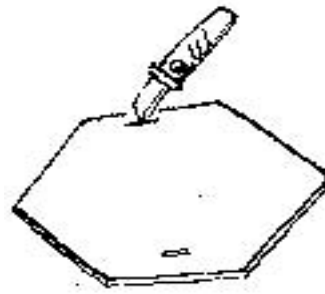

Fig. 4
- Locate and cut out the slots through the double thickness of card.(fig.4)